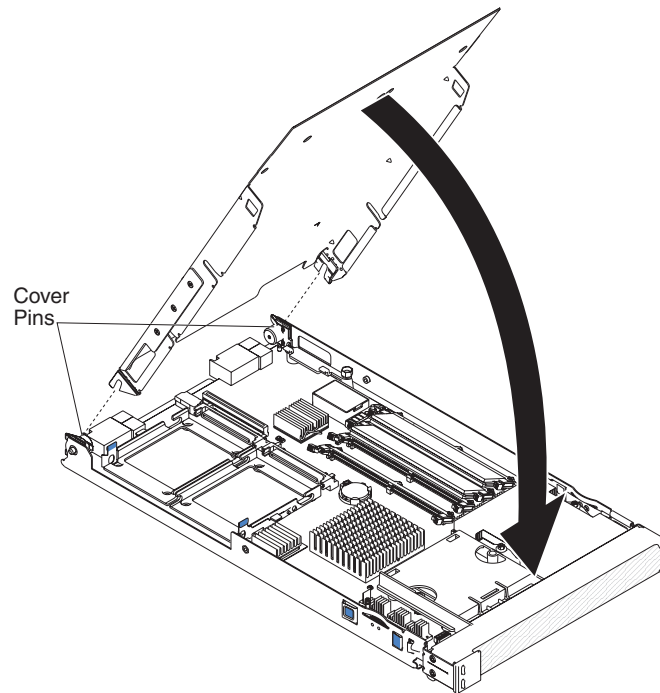

Figure 16. Closing the blade server cover
This section describes how to close the blade server cover, as illustrated in Figure 16.
3. Lower the cover so that the slots at the rear slide down onto the pins at the rear of the blade server, as shown in Figure 16. Before closing the cover, make sure that all components are installed and seated correctly, and that you have not left loose tools or parts inside the blade server.
4. Pivot the cover to the closed position as shown in Figure 16, until it clicks into place.